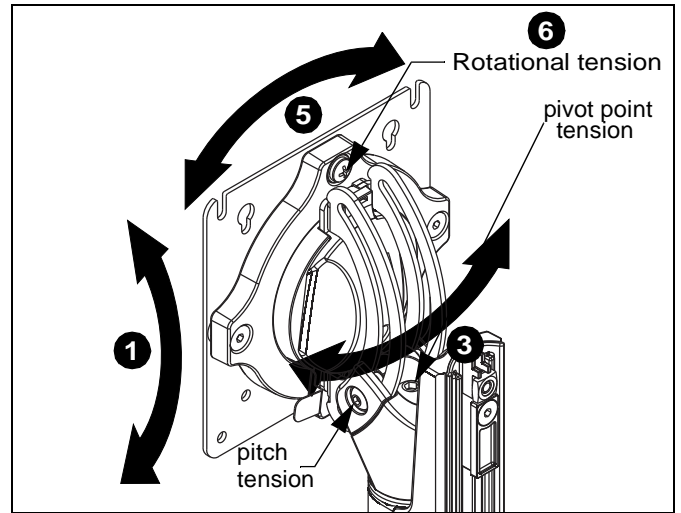

Figure 6
1. Adjust pitch to desired tilt position. (See Figure 6)
2. Adjust pitch tension screw to change the adjustment tension. (See Figure 6)
3. Adjust pivot position as desired. (See Figure 6)
4. Use 3/16" hex key (G) to adjust pivot point tension screws to change pivot adjustment tension. (See Figure 6)
5. The monitor may be adjusted 90 degrees in either direction in order to provide a portrait view of the monitor. (See Figure 6)
6. Use 3/16" hex key (G) to adjust rotational adjustment screw to adjust rotational tension. (See Figure 6)